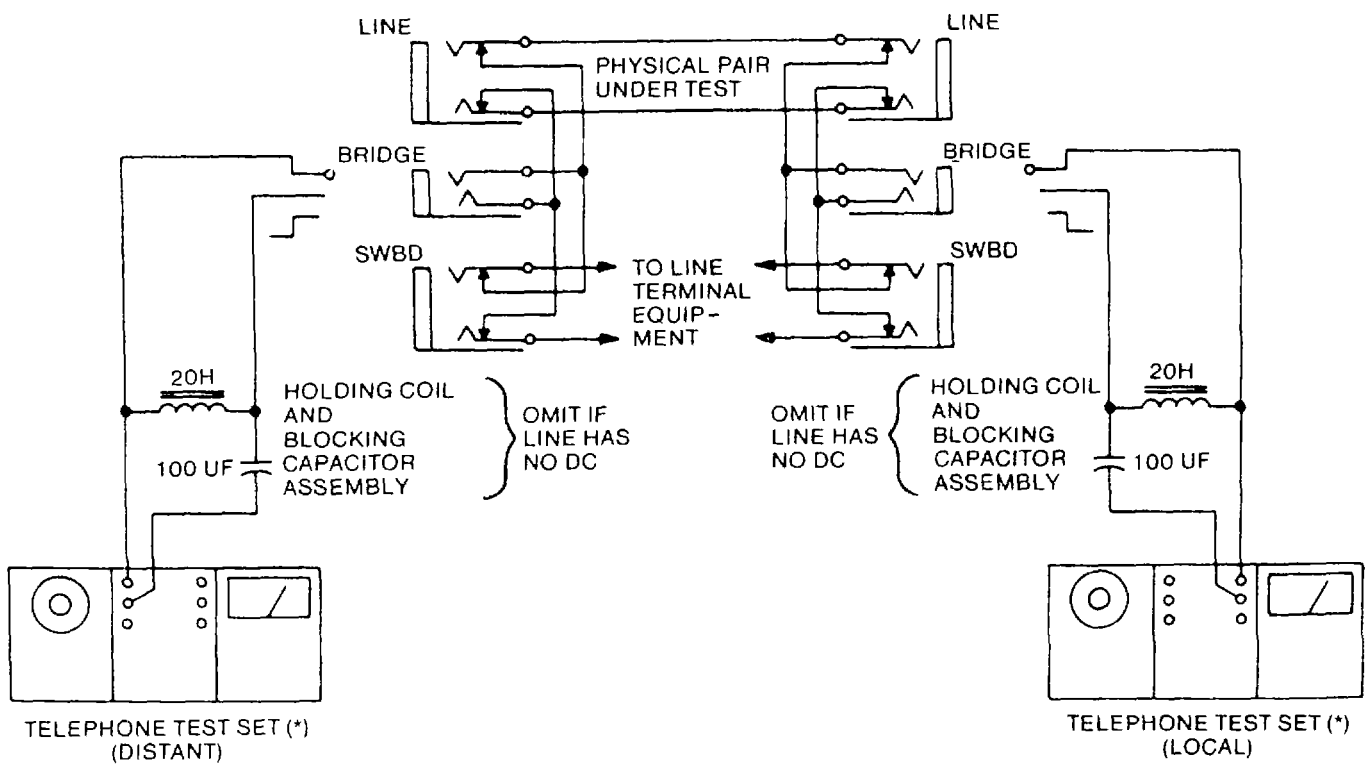

Figure 2-4. Transmission line tests (connection diagram)
If the transmission line to be tested has dc voltages applied to it, connect a dc holding coil to each end of the line. This allows for a dc path and enables the signal to enter and leave the transmission line. No dc should be allowed to flow through the attenuator (figure 2-4).
- D If the telephone line has a dc potential, Install a holding coil and blocking capacitor assembly (figure 2-4) to isolate the attenuator and to complete the dc path for common battery circuits.
- E Connect the attenuator INPUT terminals to the LINE lack (figure 2-4) when the line is to be terminated and tested, to the BRIDGE lack when the line to be tested is terminated by terminal equipment or to the SWBD lack when the terminal equipment is to be tested.